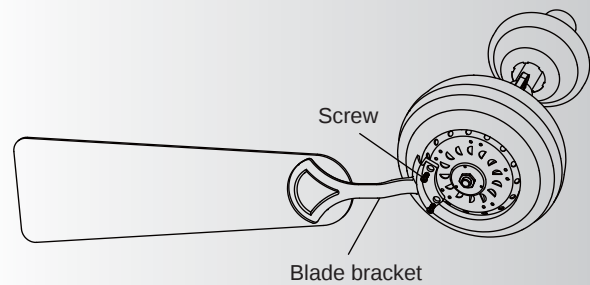

Fig. 17
Step 3. Fasten blade assembly to motor using "pre-installed" mounting screws in the blade bracket . (Fig. 17)
Step 2. Place the key holes on the mounting place over the remaining 2 screws on the mounting ring, turn mounting plate until it locks in place at the narrow section of the key holes. Secure by tightening 2 screws and reinstalling the third screw. (Fig. 17)